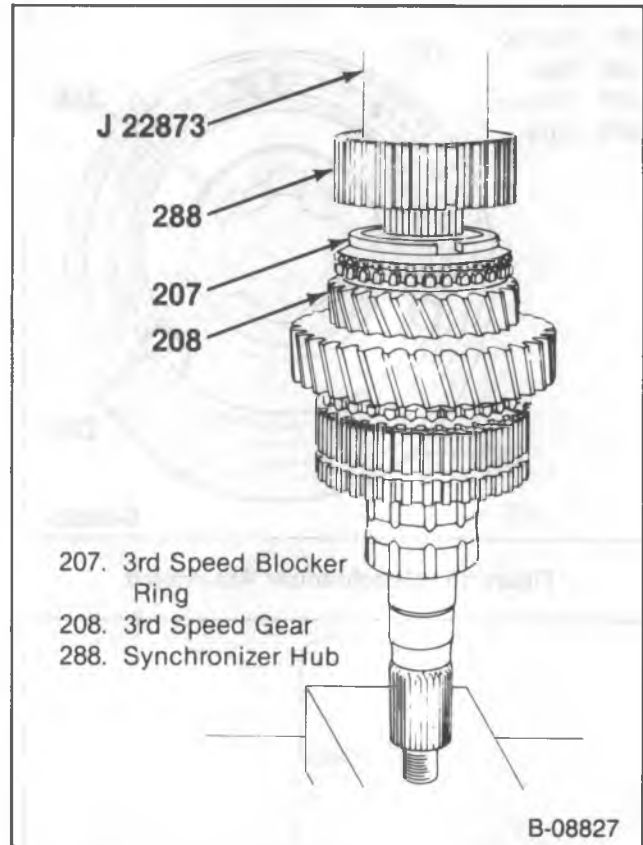

Figure 20 –Installing the 3rd and 4th Speed Synchronizer Hub
8. 3rd speed gear (208) and the blocker ring (figure 20).
9. 3-4 synchronizer (205) using J 22873 (figure 20).